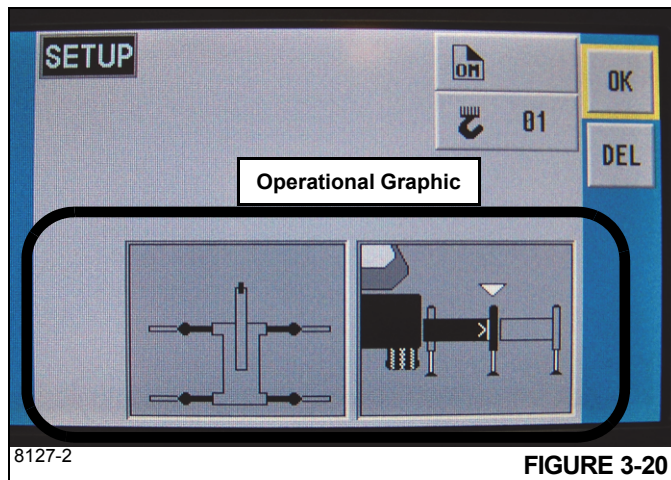

FIGURE 3-20
If the crane is setup on outriggers and “On Outriggers” is chosen when programming the RCL (Figure 3-19), then the OMS indicates to the RCL the horizontal position of each of the four outrigger beams. Based on this information, the RCL will default to the most conservative outrigger beam configuration; that is, if three outriggers are fully extended and one is retracted, the RCL will select retracted as the outrigger configuration. A confirmation of this outrigger configuration is all that is needed (Figure 3-20). Refer to the *Rated Capacity Limiter Operator Handbook* for detailed instructions.
**NOTE:** Figure 3-20 depicts all four outrigger beams in the mid-extend position as indicated by the OMS and RCL.